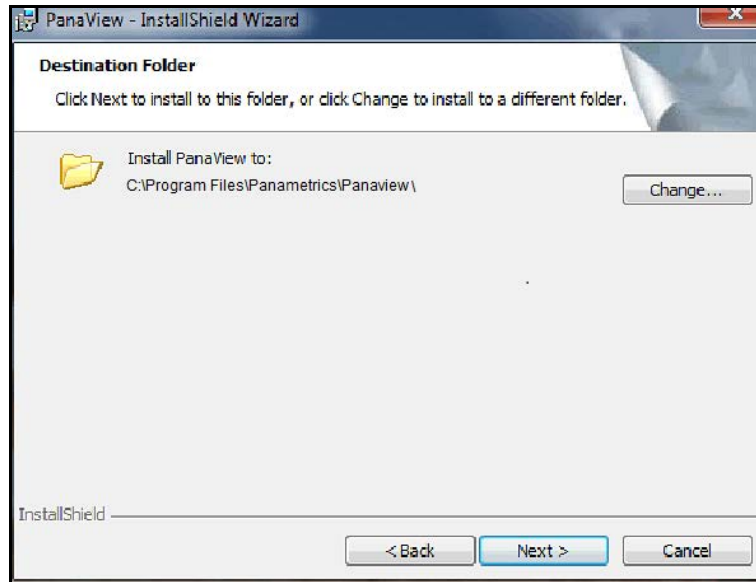

Figure 7: Destination Folder Screen
6. Click on the **[Next]** button at the screen shown in *Figure 7* below to accept the default directory for the PanaView files (recommended).